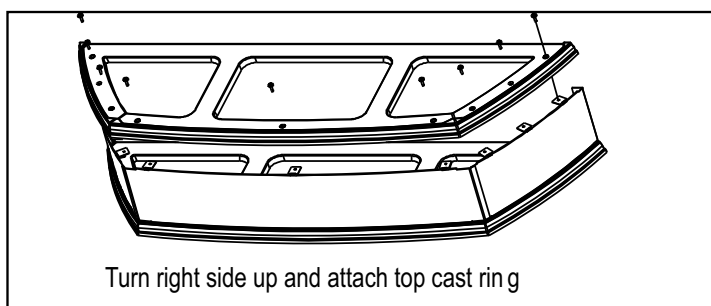

Figure 18.2
5. Now turn the cast ring right side up and attach the top cast ring. **Figure 18.2.**